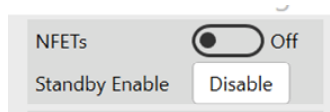

Figure 10: N-FET Status
4. Turn on the N-channel MOSFETs (N-FETs) (see Figure 8 on page 8), then click the “Read All” button. The N-FET status should be displayed in green for CHG, DSG, and CHG Pump, while the power status should be set to active (see Figure 10).